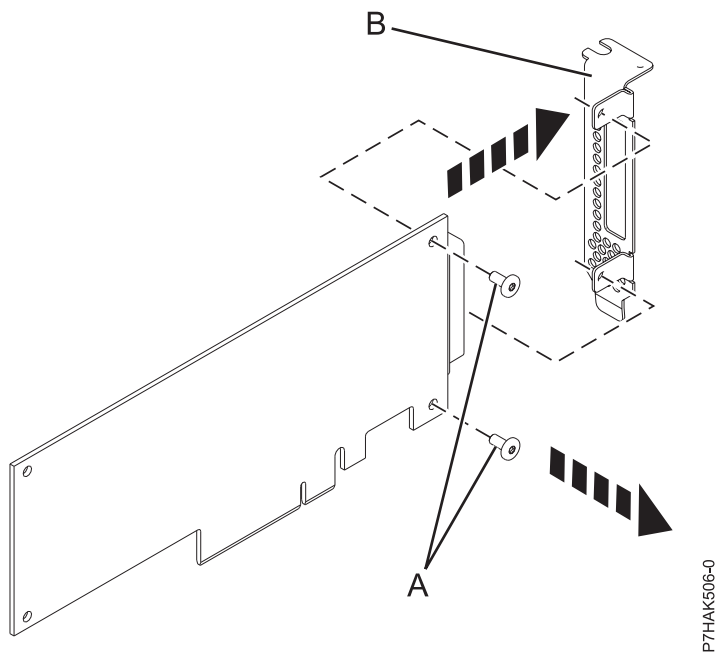

Figure 49. Removing the low-profile tailstock from a PCIe adapter
2. Using a Phillips screwdriver, unscrew the two screws (**A**) that attach the tailstock (**B**) to the PCIe adapter, as shown in Figure 49.